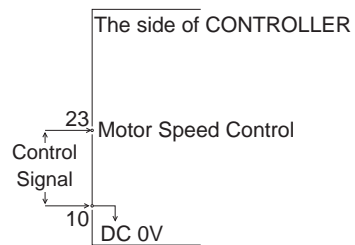

Fig. 30
**When applying the DC 0V to DC+10V, never input more than DC+10V to the CONTROLLER (Fig. 30). This will cause serious damage to the I / O Board in the CONTROLLER.**